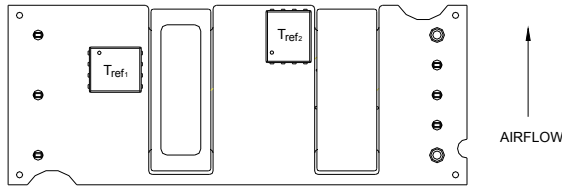
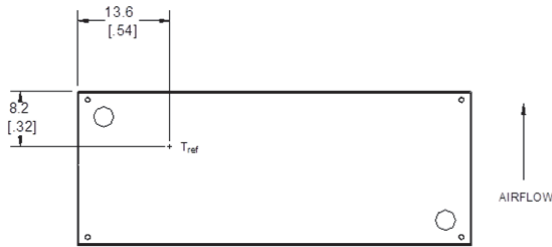

Figure 13.  $T_{ref}$  Temperature Measurement Locations for Open Frame Module.
Figure 14.  $T_{ref}$  Temperature Measurement Location for Module with Heatplate.
To provide protection under certain fault conditions, the unit is equipped with a thermal shutdown circuit. The unit will shutdown if the thermal reference point,  $T_{ref}$ , exceeds 122° and 123°C (Figure 13, typical) or 105 °C (Figure 14, typical), but the thermal shutdown is not intended as a guarantee that the unit will survive temperatures beyond its rating. The module will automatically restart upon cool-down to a safe temperature.
The thermal reference points,  $T_{ref1}$  and  $T_{ref2}$ , used in the specifications for open frame modules are shown in Figure 13. For reliable operation these temperatures should not exceed 122° and 123°C respectively.
The thermal reference point,  $T_{ref}$ , used in the specifications for modules with heatplate is shown in Figure 14. For reliable operation this temperature should not exceed 100°C.